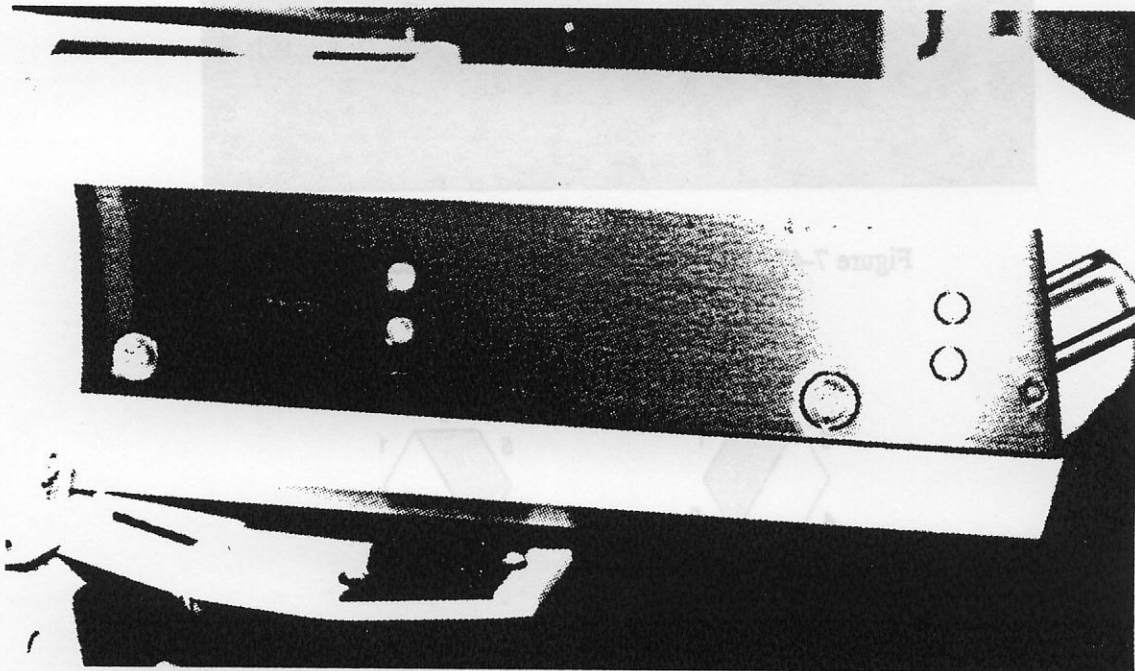

Figure 7-46. Removing DR-1
2. Remove the data shuttle cover by removing the top three screws on the rail and loosening the bottom three. A second person should support the drive while the first person loosens the bottom three screws. Refer to Figure 7-46.